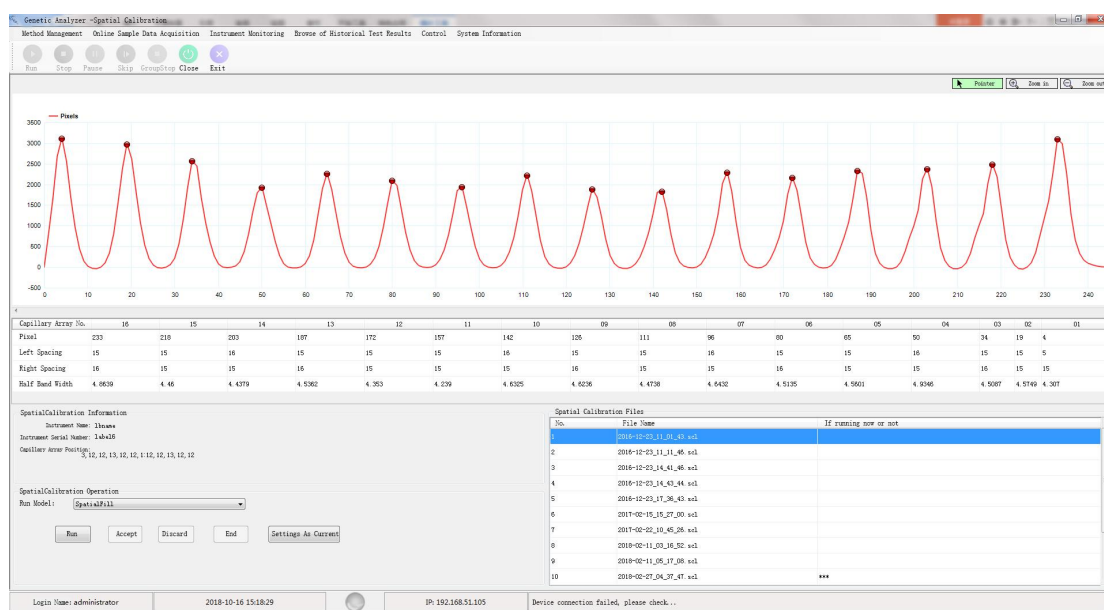

Figure 16. Spatial Calibration Diagram
(3) Click "Run" to start spatial calibration. The results of spatial calibration can be seen after the completion of spatial calibration as shown in Figure 16 below.